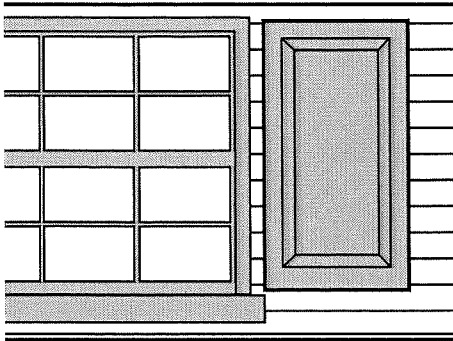

Figure 1
1. Place the shutter next to the window at the desired location (see Figure 1).